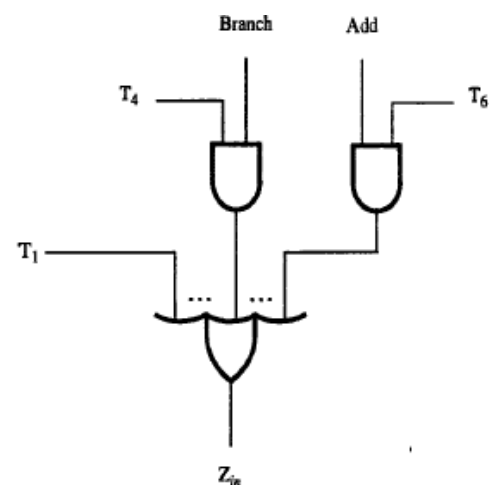

Figure 7.12 Generation of the Z_{in} control signal
- For example (Figure 7.12), $Z_{in} = T_1 + T_6 \cdot ADD + T_4 \cdot BR$